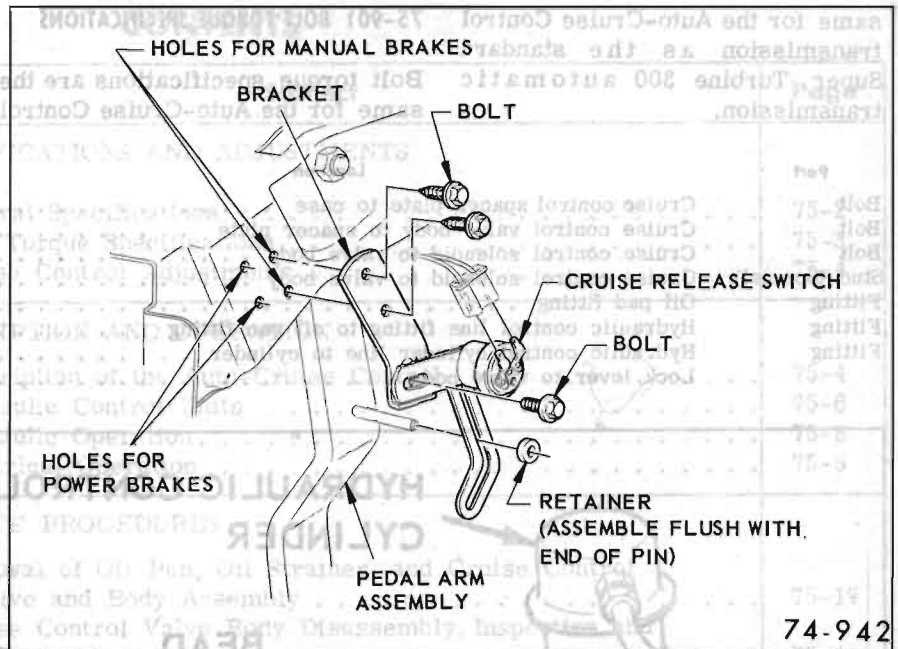

Figure 75-902—Brake Release Switch Adjustment
2. Loosen screw that retains brake release switch to brake pedal support bracket. Position switch so that circuit opens (light goes out) when brake pedal is depressed 1/4 inch. See Figure 75-902.